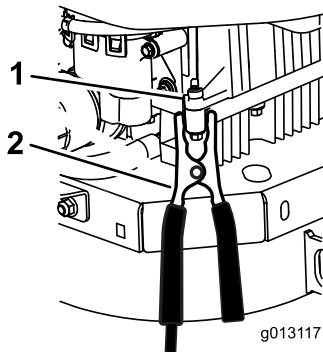

Figure 64
6. **Make the final connection on the engine block of the stalled vehicle (not to the negative battery post) away from the battery and stand back (Figure 64).**